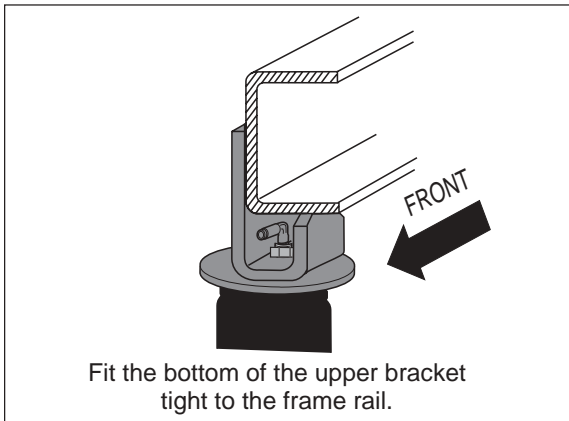

Figure 3
- To install the upper bracket, lower the axle or raise the frame until the upper bracket is in line with the lower and on the same angle as the leaf spring. The bottom of the upper bracket must fit tight to the bottom of the frame rail (Figure 3). The upper bracket must be parallel and perpendicular to the lower bracket. The upper bracket is designed so that it can be "tilted" for the proper angle.
Stability translates into safety and should be the priority, meaning the driver may need to sacrifice a perfectly level and comfortable ride. Stability issues include roll control, bounce, dive during braking and sponginess (fig. 3). Tuning out these problems usually requires an increase in pressure.